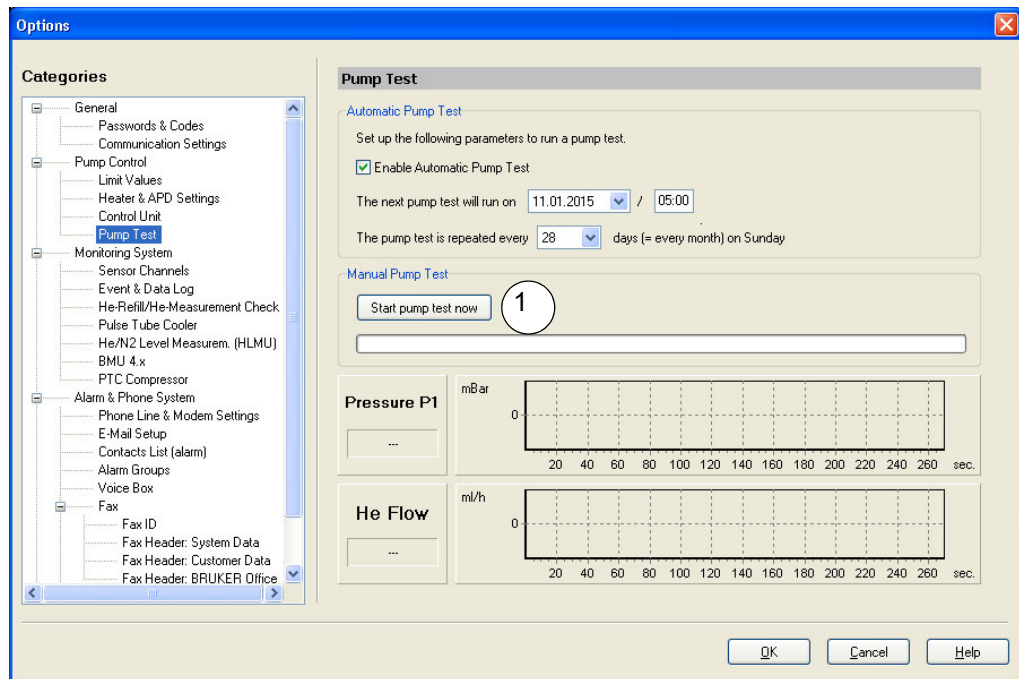

Figure 8.21: Tools - Options - Control Unit - Pump Test
4. Press the "Start pump test now" button (Figure 8.21: 1).